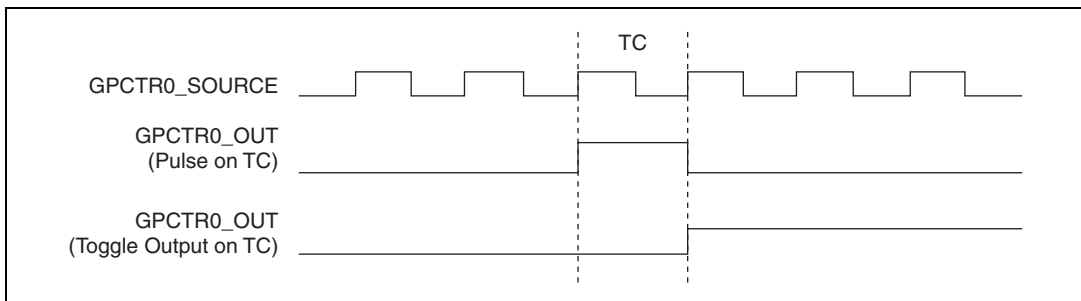

Figure 4-29. GPCTR0_OUT Signal Timing
This signal is available only as an output on the GPCTR0_OUT pin. The GPCTR0_OUT signal reflects the terminal count (TC) of general-purpose counter 0. You have two software-selectable output options—pulse on TC and toggle output polarity on TC. The output polarity is software-selectable for both options. This output is set to high-impedance at startup. Figure 4-29 shows the timing of GPCTR0_OUT.